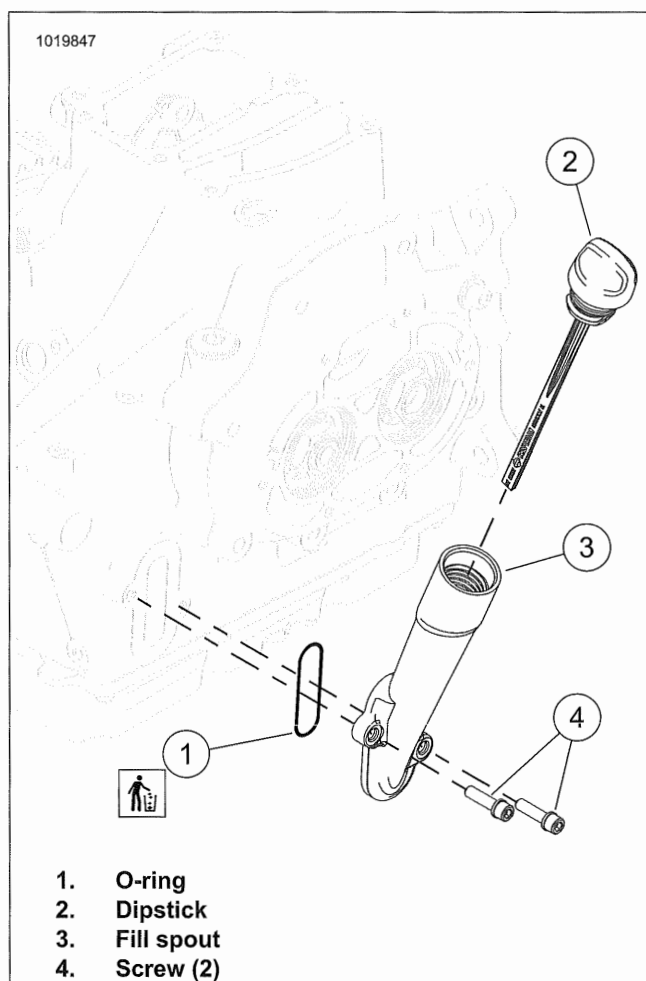

Figure 5-34. Engine Oil Fill Spout
1. See Figure 5-34. Remove screws (4).
2. Remove fill spout (3).
3. Discard O-ring (1).
1. See Figure 5-34. Install **new** O-ring (1).
- a. Install fill spout (3).
- b. Install screws (4). Tighten.